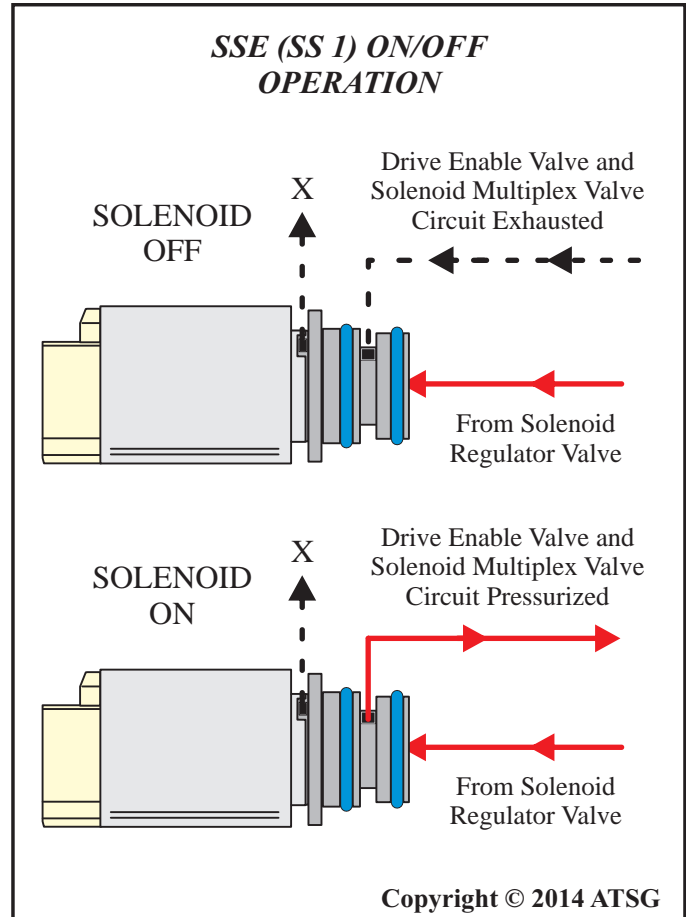

Figure 18
The primary function of SSE is to control valves in the main control valve body assembly in order for SSD to perform its dual purpose function. Refer to Figure 12 it will be noticed that SSE operates or is ON only in Drive 4, 5, 6 ranges. The solenoid remains OFF in all other ranges. Refer to Figure 18. Hydraulic solenoid control pressure is supplied by the solenoid regulator valve in the main control assembly and is directed to the opening in the front of the solenoid. When SSE is OFF solenoid control pressure cannot pass through the solenoid and the passage in the solenoid between the o-rings is open to an exhaust and exhausts pressure from the Drive Enable Valve and Solenoid Multiplex Valve Circuit. This allows SSD to control the apply and release of the low/reverse (D) Clutch. When SSE is ON solenoid control pressure passes through the solenoid and pressurizes the Drive Enable Valve and Solenoid Multiplex Valve Circuit. This allows SSD to control the apply and release of the overdrive (E) Clutch.